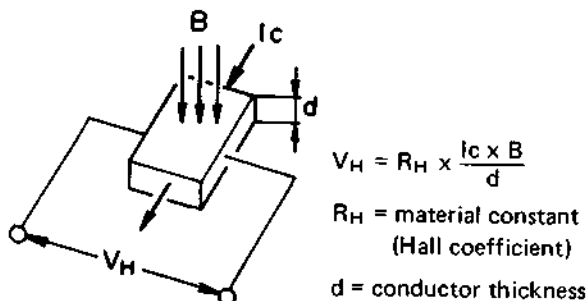

Fig. 3-24 Hall element
In certain semiconductors, when a current (I_c) flows perpendicular to magnetic lines of force (B), a voltage (V_H) becomes produced which is perpendicular (3 dimensionally) to both the current and magnetic field. This is termed the Hall effect and forms the principle utilized by Hall elements. The basic diagram of a Hall element is shown in Fig. 3-24.